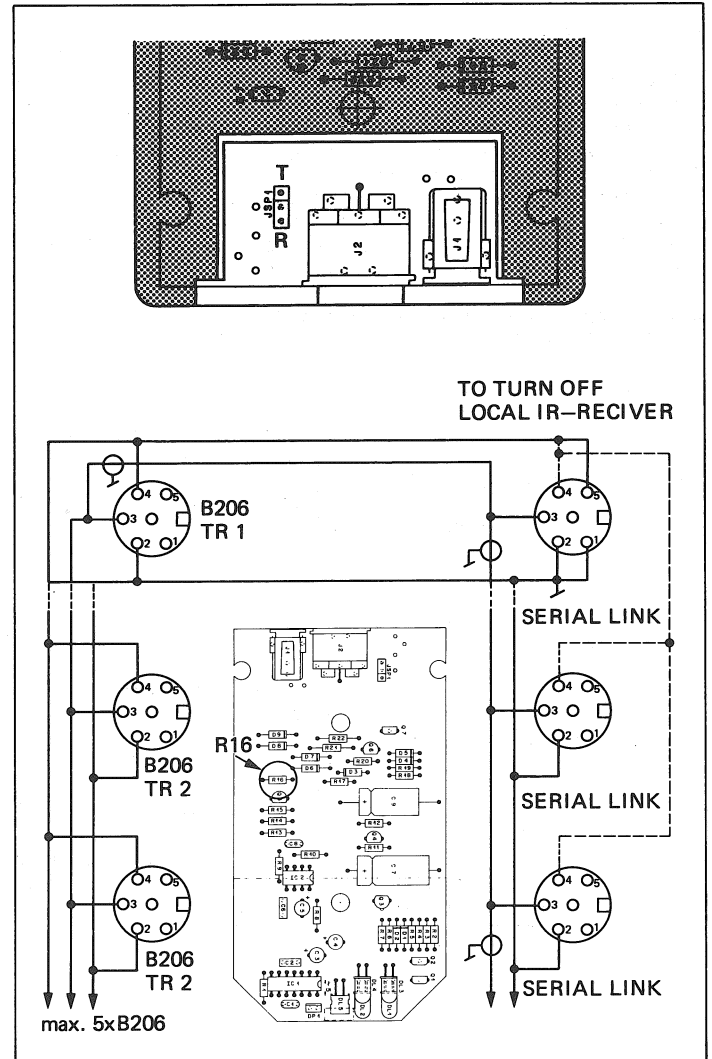

Fig.4.1
2. Wire DIN connector for B206 Transceiver and the SERIAL LINK socket according to Fig. 4.1.
As can be seen from Fig. 4.1, several B206 Transceivers as well as several REVOX units can be connected in parallel with SERIAL LINK sockets. The installation must be executed very carefully and the connecting cables should be prepared by an experienced technician.
* On all units with SERIAL LINK the internal IR receiver can be switched off. (In the connector link pin4 with pin5, as well as pin1 with pin 2. Caution in the case of parallel-connected units: see Fig. 4.1.)